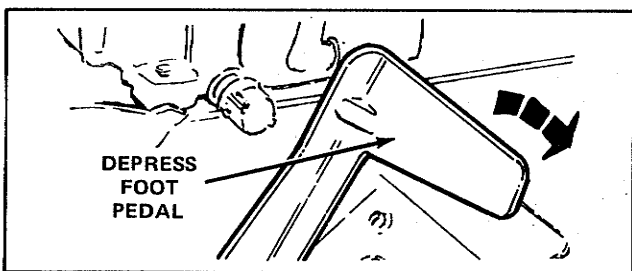

Figure 7
3. Depress the clutch-brake pedal all the way and hold it down. (See Figure 7)